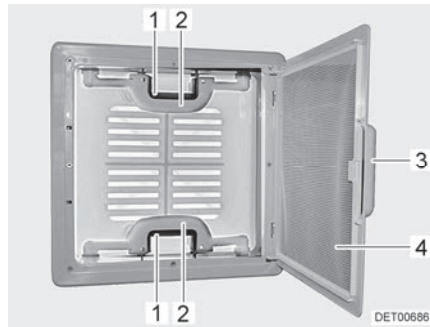

Fig. 29 Skylight with snap latch
- Pull on the handle (Fig. 29,3).
- Fold insect screen (Fig. 29,4) downward.
- Push the snap latch (Fig. 29,1) towards the inside of the skylight. At the same time use the handle (Fig. 29,2) to press the skylight upwards.
- Swing insect screen (Fig. 29,4) upwards until it latches in place.
- Using both handles (Fig. 29,2), pull down the skylight with force until the two snap latches (Fig. 29,1) lock into place.